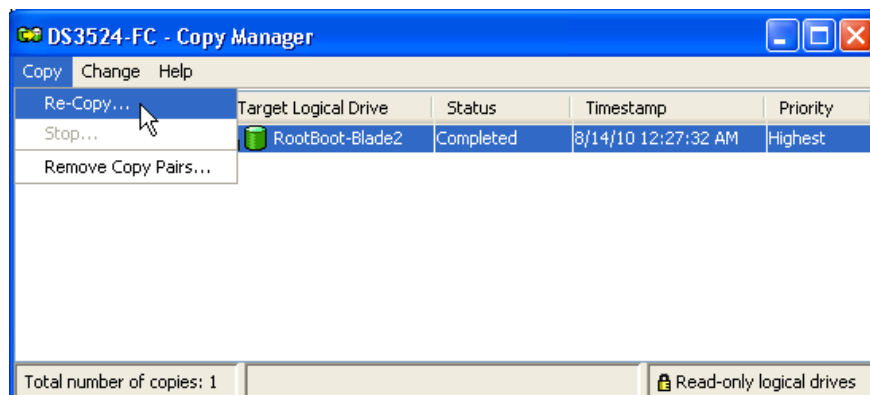

Figure 3-14 Copy Manager: Re-Copy menu
3. Select **Logical Drive** → **VolumeCopy** → **Copy_Manager**. (Or right-click and select **Copy Manager**.) The Copy Manager window opens, as shown in Figure 3-14 on page 86.